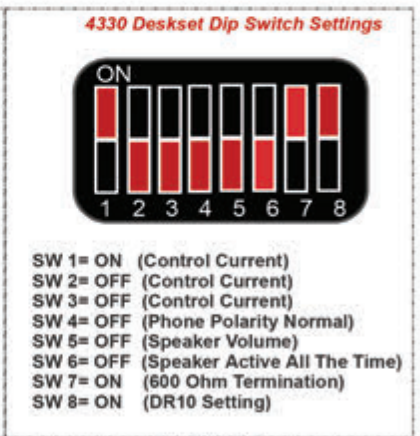

Figure 5:
- Verify the correct dip switch setting on the CPI. (See Figure 5)